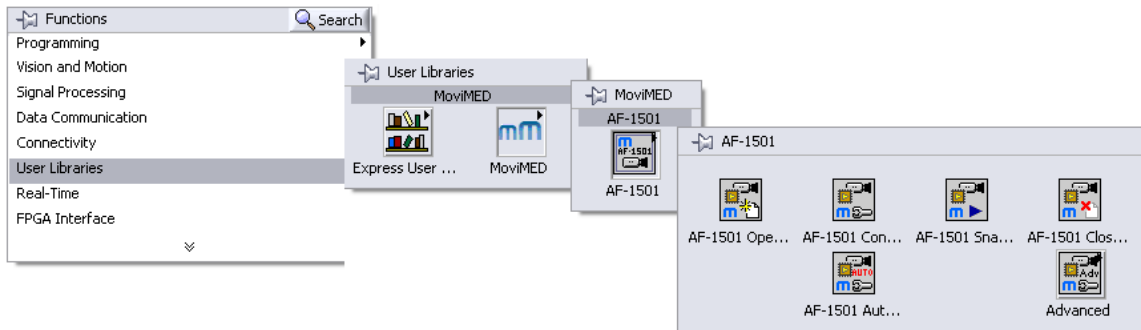

Figure 14: Location of the AF-1501 API in the Functions Palette
- Fully integrated with LabVIEW as a add-on functions palette after the driver installation. The driver API is located under **User Libraries » MoviMED » AF-1501** as shown in Figure 14.